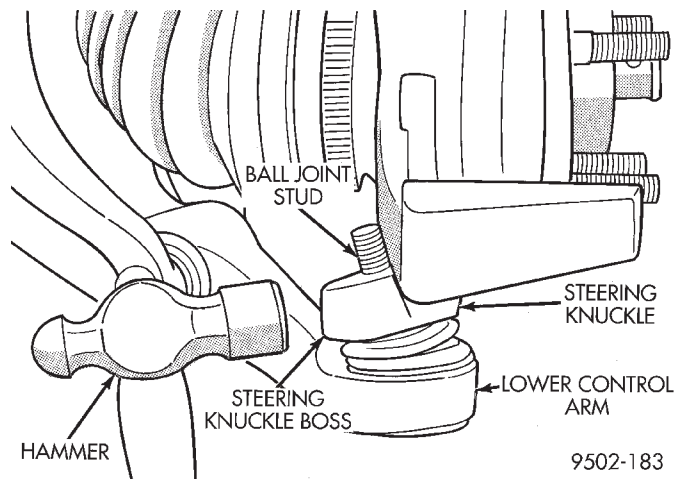

Fig. 22 Separating Ball Joint Stud From Steering Knuckle
(14) Turn steering knuckle so the front of the steering knuckle is facing as far outboard in the wheel well as possible. Using a hammer strike the boss on the steering knuckle, (Fig. 22) until steering knuckle separates from stud of lower ball joint.